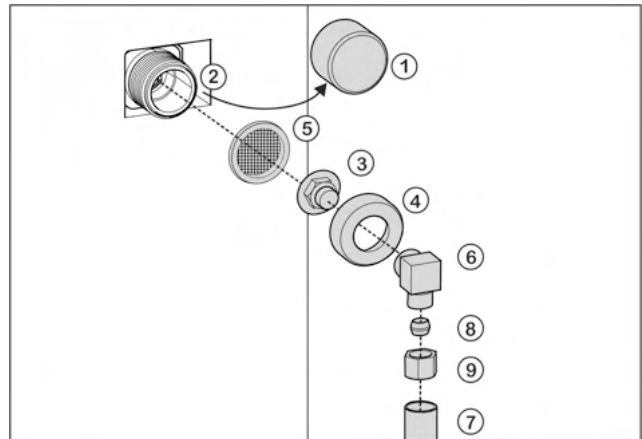

Fig. 51
- Remove cap *Fig. 51 (1)* from solenoid valve *Fig. 51 (2)*.
- Insert coupler *Fig. 51 (3)* into union nut *Fig. 51 (4)*.
- Insert the filter *Fig. 51 (5)* with the recess pointing down towards the coupler *Fig. 51 (3)*.
- Screw the union nut *Fig. 51 (4)* by hand onto the thread of the solenoid valve *Fig. 51 (2)* until it is firmly in place.
- Screw on angle piece *Fig. 51 (6)*.
- Connect the water pipe *Fig. 51 (7)* (e. g. 1/4" OD copper pipe) with the clamp ring *Fig. 51 (8)* and nut *Fig. 51 (9)* to the elbow connector *Fig. 51 (6)*.
- ▶ If necessary: Fasten the water pipe *Fig. 51 (7)* to the housing with the guide clip.
- ▶ Put angle piece *Fig. 51 (6)* to one side.
- ▶ Connect the water pipe *Fig. 51 (7)* (e. g. 1/4" OD copper pipe) with the clamp ring *Fig. 51 (8)* and nut *Fig. 51 (9)* to the coupler *Fig. 51 (3)*.